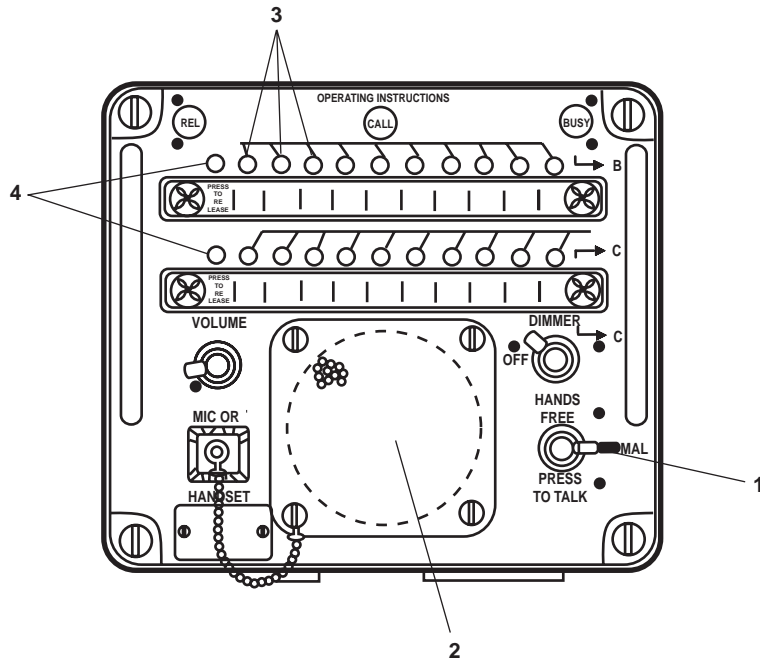

Figure 5. Intercom Panel
- a. Turn DOWN and hold the intercom control lever (figure 5, item 1) in the PRESS TO TALK position.
- b. Speak directly into the wire mesh speaker (figure 5, item 2).
- c. Acknowledge the incoming call by giving your station name, then release the intercom control lever (figure 5, item 1).
- d. Each time you answer a call or pass information, you must turn down and hold the intercom control lever (figure 5, item 1) in the PRESS TO TALK position.
- a. Press a STATION pushbutton (figure 5, item 3).
- b. Turn DOWN and hold the intercom control lever (figure 5, item 1) in the PRESS TO TALK position.
- c. Speak the station name you are calling directly into the wire mesh speaker (figure 5, item 2).
- e. When the call is complete, press the PRESS TO RELEASE pushbutton (figure 5, item 4).
- a. Press all the station pushbuttons (figure 5, item 3).
- b. Turn UP the intercom control lever (figure 5, item 1) and lock it into the HANDS FREE position.
- c. Speak directly into the wire mesh speaker (figure 5, item 2) to make the announcement.
- d. When the announcement is completed, turn down intercom control lever (figure 5, item 1) and allow it to return to the NORMAL position.
- e. Press the PRESS TO RELEASE pushbutton (figure 5, item 4).